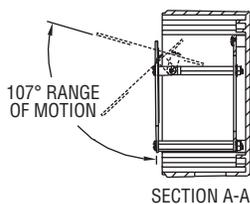

Figure 2
- Step 5) For the 2.4" model, lift the bottom of the mounting bracket so that it swivels up exposing the rear of the panel meter (as seen in Figure 2) and slide the mounting hardware over the rear of the meter locking it in place.